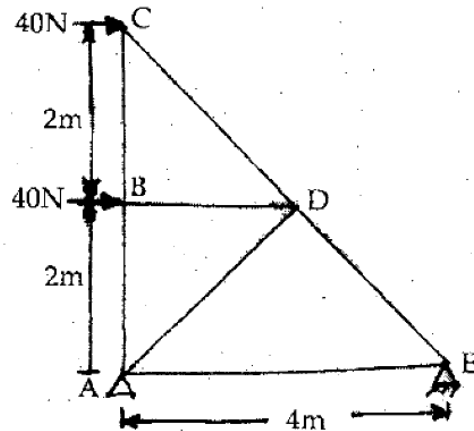

Fig. 1.4
9. Analyse the frame as shown in Fig 1.4 and determine the forces in all members by using tension coefficient method. <http://www.HaryanaPapers.com>